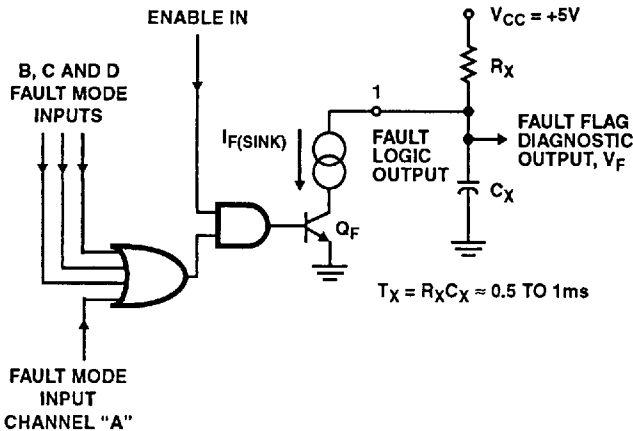

FIGURE 2. EXTERNAL FAULT OUTPUT CIRCUIT AND $I_{F(SINK)}$ AS FAULT SINK PULLDOWN CURRENT, WHICH IS ACTIVATED BY TRANSISTOR, Q_F , WHEN A FAULT EXISTS
- The I_{OL} value of "Output Low Current, $I_{F(SINK)}$ " at the FAULT pin is both the static leakage of the output driver Q_F and the current sink, $I_{F(SINK)}$. The current sink is active only when a fault exists. When no fault exists, the I_{OH} current at the FAULT pin is the maximum leakage current, $I_{F(LK)}$. Refer to Figure 2 for an illustration of the FAULT output and associated external components. Refer to FAULT LOGIC TABLE for Fault Modes.
- The Voltages, $V_{H\text{THD}}$, $V_{L\text{THD}}$ are the comparator threshold reference values (Min. & Max. Range) sensed as a high and low state transitions for voltage forced at the outputs. $V_{H\text{THD}}$ indicates an open load fault when the output is decreased to less than the threshold. $V_{L\text{THD}}$ indicates a shorted load when the output is increased greater than the threshold. The output voltage is changed until the FAULT pin indicates a Low (Fault). Refer to Figure 2 for test value of external resistor. Refer to I_{OL} and I_{OH} FAULT PARAMETERS Test Limits to determine V_{OL} and V_{OH} at the FAULT pin.
Since a diagnostic flag indicates when an output is shorted, this information can be used as input to a microprocessor or dedicated logic circuit to provide a fast switch-off when a short occurs and, by sequence action, can be used to determine which output is shorted. A fault condition in any output load will cause the FAULT output to switch to a logic "low". Since a fault condition may be detected during switching, use of an appropriate size capacitor to filter the FAULT output is recommended. The recommended FAULT output circuit is shown in Figure 2. This will prevent the FAULT output voltage from reaching a logic level "0" within the maximum switching time.
The FAULT output diagram of Figure 2 shows the circuit component interface for sensing a diagnostic fault condition. As noted, the time constant of $T_X = R_X C_X$ should be greater than the ON-OFF output switching times to avoid false fast readings during switching. For applications requiring fast period repetition rates, the maximum time constant should be significantly less than the period of switching. The shortest practical time constant is preferred to limit the duration of a fault condition.